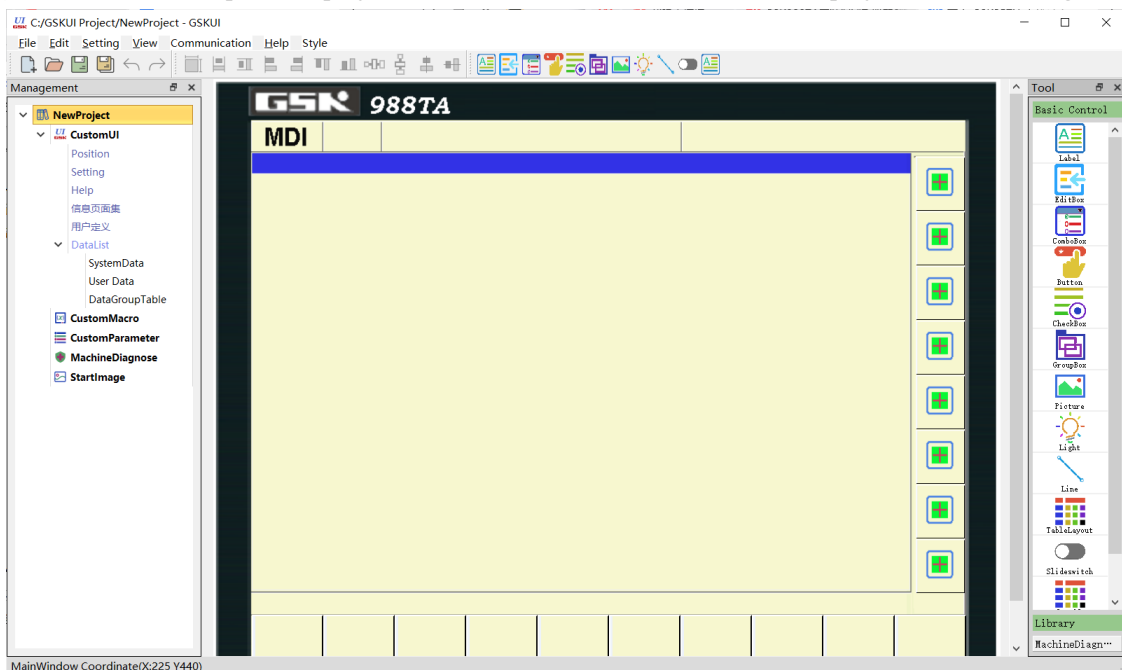

Fig. 1-82
(4) Click "OK" to complete the project creation. The main interface of the new project is shown in Figure 1-82.